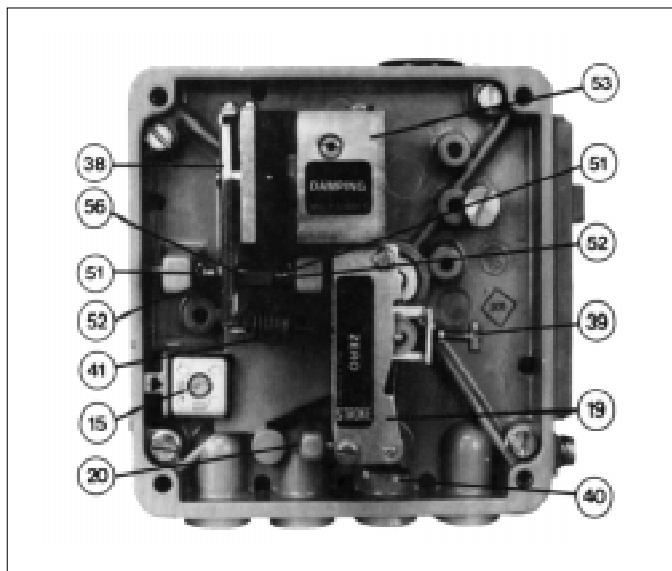

Figure 19
A. Adjustment of the Positioner: (See Figure 19)
1. Unscrew CCW the limiting screw (43). If you can't pull it out by hand, unscrew CCW the throttle screw (42) and remove both by hand.
2. Pull the throttle screw (42) out of the limiting screw (43).
3. Place the throttle screw (42) in a solvent (e.g. benzene) and blow through it carefully. It is best to clean in an ultrasonic solvent bath.
4. Turn the throttle screw (42) in again as far as it goes CW.
5. Turn the limiting screw (43) in as far as it goes CW; then back it out CCW by about half a revolution.
6. Secure the limiting screw (43) with sealing paint.
C. Replacing the Amplifier: (See Figure 19)
1. Unhook the range spring (41) from the flapper lever (38).
2. Unscrew and remove the amplifier (53) sub-assembly; the two amplifier mounting screws are accessible from the rear of the positioner.
3. Install a new amplifier (53). Do not forget the o-rings between the amplifier and the main unit's base-plate (BP) (air baffle). Before tightening, carefully align the mounting screws, position the amplifier (53) in such a way that the flappers (52) are concentrically aligned with the nozzles (51). **NOTE:** *It is recommended that the mounting screw be sealed from the back with a silicone sealant.*
4. Hook the range spring (41) onto the flapper lever (38).